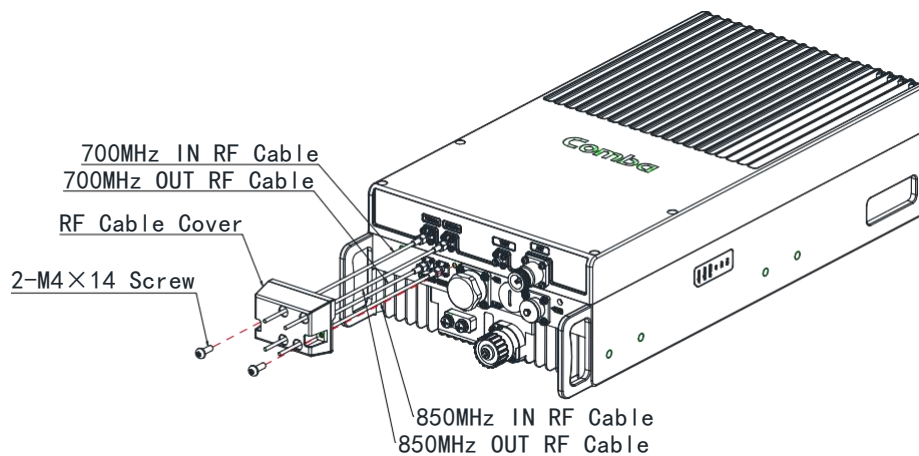
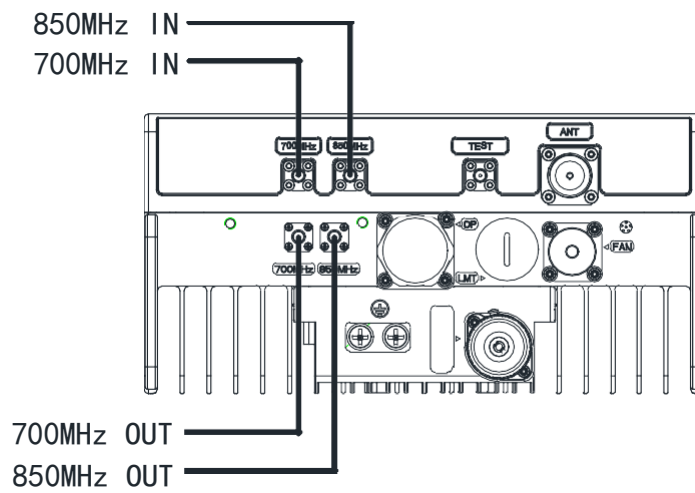
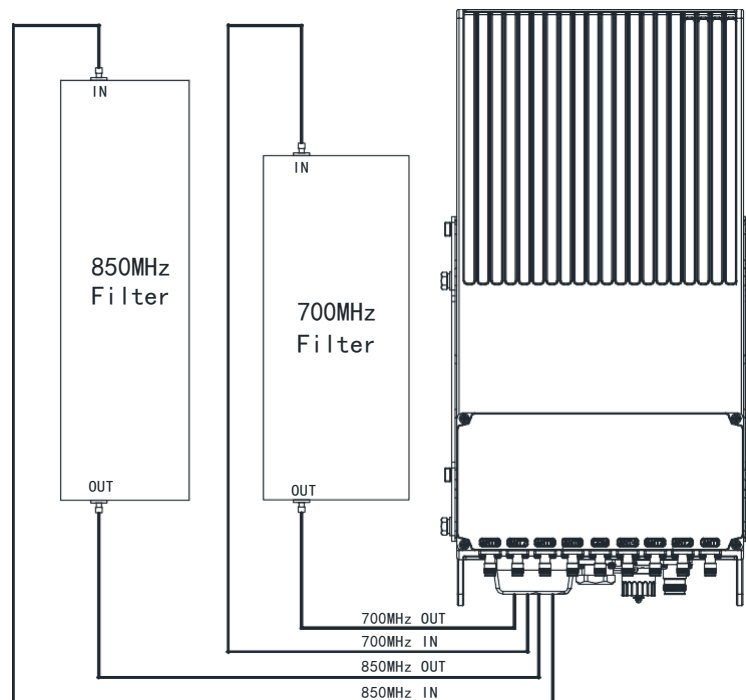

Figure11 Connect the RF cable and Filer
Figure12 700/850 RF Ports
Figure13 Filter Connection
Step2: Please use 4 RF cables to connect 700MHz and 850MHz filter input/output ports, and then use 2 M4x14 screws to lock the RF Cable Cover, as shown in Figure 11, and RF Cable connection as shown in Figure 12 and Figure 13.